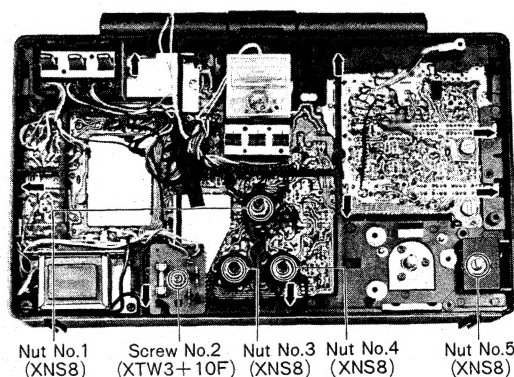

Fig. 15
10. Remove the four (4) nuts (nos. 1, 3, 4 & 5) for the controls, as shown in fig. 15.
11. Remove the one (1) screw (no. 2) for sub PC board, shown in fig. 15 and remove sub PC board.
12. Push the eight (8) catches for the PC board, shown in fig. 15 and remove PC board.